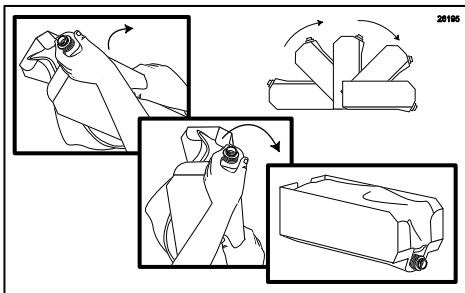

Figure 45
- Holding the fitment in place, raise the open end of the tray and flip the tray right side up. As the tray is set back down, allow the bag to settle in the tray. (See Figure 45.)